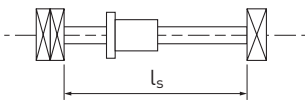

Fig. 3.23 Distance between supports
- l_s Unsupported screw length [mm] (see Fig. 3.23)
- l_s Distance between supports [mm] (see Fig. 3.23)